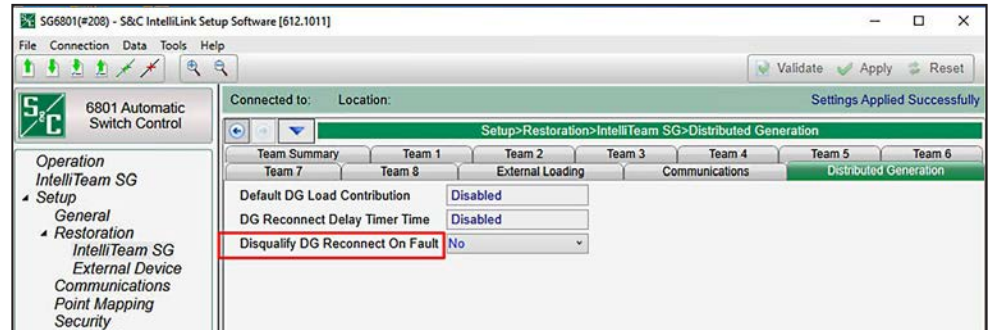

Figure 31. The *Setup>Restoration>IntelliTeam SG>Distributed Generation* screen.
Distributed generation (DG) settings are used for IntelliTeam systems with distributed generation resources (e.g. solar, wind, etc.) on the circuit. See Figure 31.
Transfer Trip commands are sent from the device to distributed generation (DG) resources within the distribution system immediately upon detection of a circuit anomaly so the DG does not interfere with IntelliTeam system restoration activities. This action is both for safety reasons and for the protection of load. See Figure 31 on page 79.